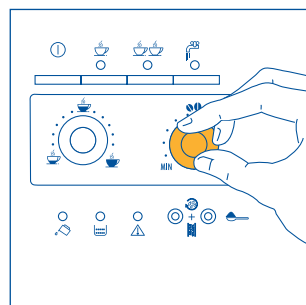
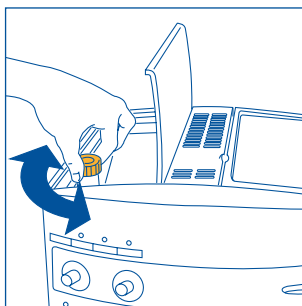

Fig.7
Fig. 17
- 2) Adjust the coffee flavor dial (Fig. 7) to set the desired taste of the coffee. Turning the knob clockwise increases the quantity of coffee beans that the machine will grind, and thus makes the taste of the coffee stronger. When using the machine for the first time, the correct position of the knob can be found by trial and error. Make sure not to turn it too far clockwise, otherwise the coffee will be delivered too slowly (in drips), in particular when preparing two cups of coffee.
NOTE 1: *If the coffee is delivered a drop at a time or not at all, turn the grinding coarseness regulator (fig. 17) one click clockwise (see section 6). Turn a click at a time until the coffee is delivered satisfactorily.*
NOTE 2: *If the coffee is delivered too fast and is not creamy enough, turn the coffee flavor dial (fig. 7) clockwise. Proceed by trial and error to find the correct position of the dial. Make sure not to turn the dial too far clockwise, otherwise the delivery may become too slow (in drips), in particular when making two cups of coffee. If, after several coffees, the cream is still not satisfactory, also turn the grinding coarseness regulator (Fig. 17) one click counter-clockwise (see section 6).*
To resolve this problem, re-set the grinding coarseness by adjusting the regulator (Fig. 17) one click counter-clockwise (as described in chap. 6).
Nonetheless, after having made the first coffees, if delivery is too fast or too slow (in drips), the grinding coarseness regulator can be adjusted (Fig. 17). Turning one click (one number) clockwise achieves faster delivery of the coffee (without drips).